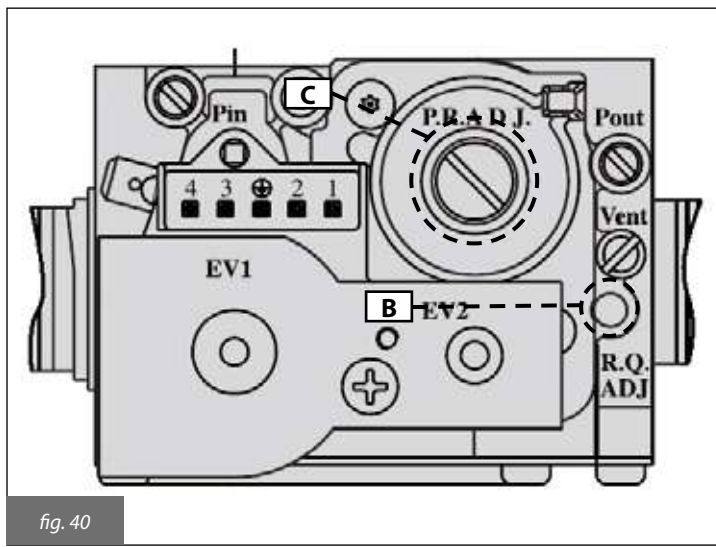

fig. 40
- Set the flue (CO2) rate by turning the ratio adjuster **B** (fig. 40) and ensure that reading falls within the limits of table 22. Let boiler flue cleaning function on and continue with the next point "Minimum heating output adjustment".
- Set the flue (CO2) rate by turning the offset adjuster **C** (fig. 40) and ensure that reading falls within the limits of table 22.